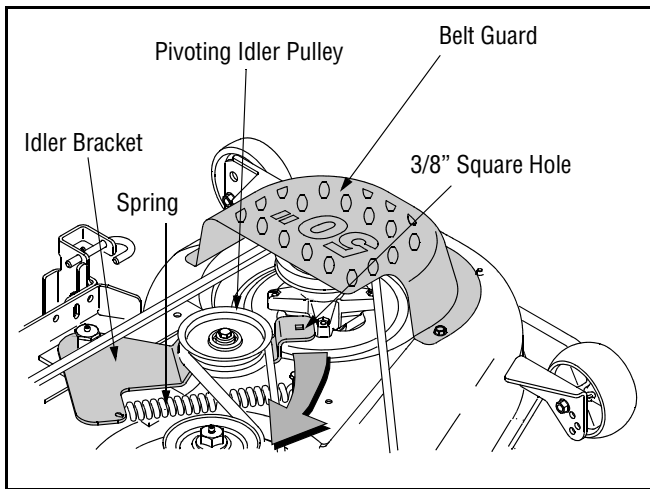
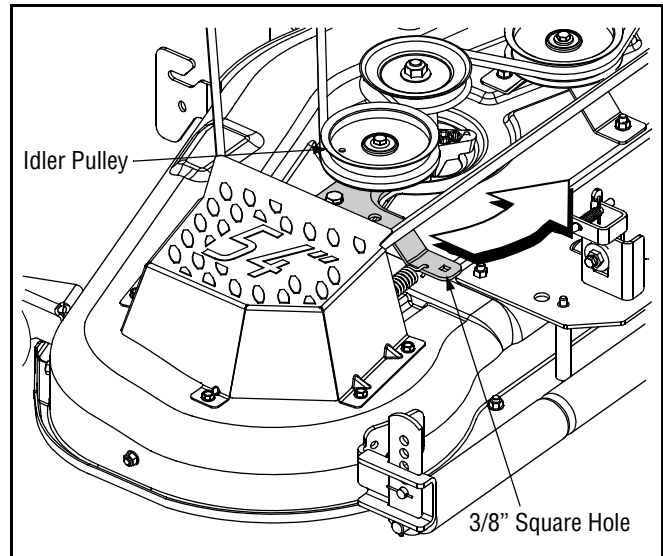

Figure 25
Figure 26
- Insert a 3/8"-drive ratchet wrench (set to *tighten*, Model GT2200 or set to *loosen*, Model GT2300) into the square hole found in the idler bracket on the left side of the deck's surface. See Figure 25, Model GT2200 or Figure 26, for Model GT2300.